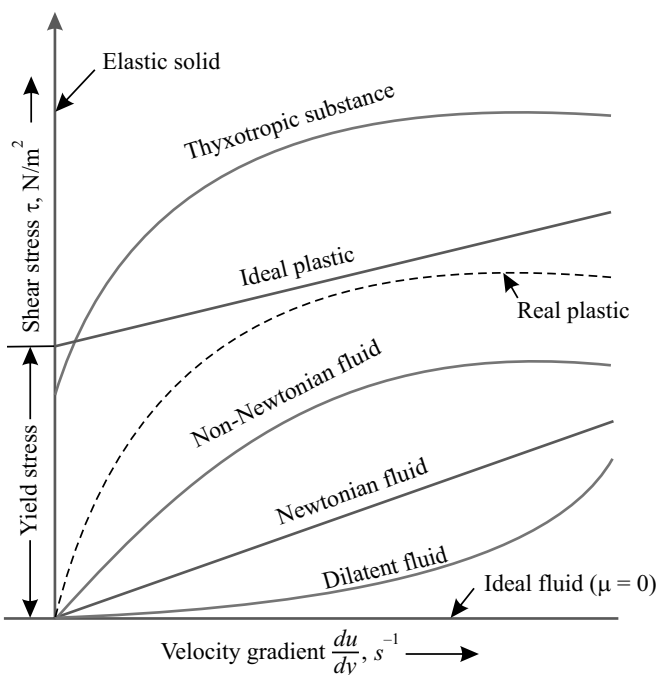

Fig. 1.2. Variation of shear stress with velocity gradient.
Refer to Fig.1.2.
3. Plastic fluids. In the case of a plastic substance which is non-Newtonian fluid an initial yield stress is to be exceeded to cause a continuous deformation. These substances are represented by straight line intersecting the vertical axis at the "yield stress" (Refer to Fig. 1.2).